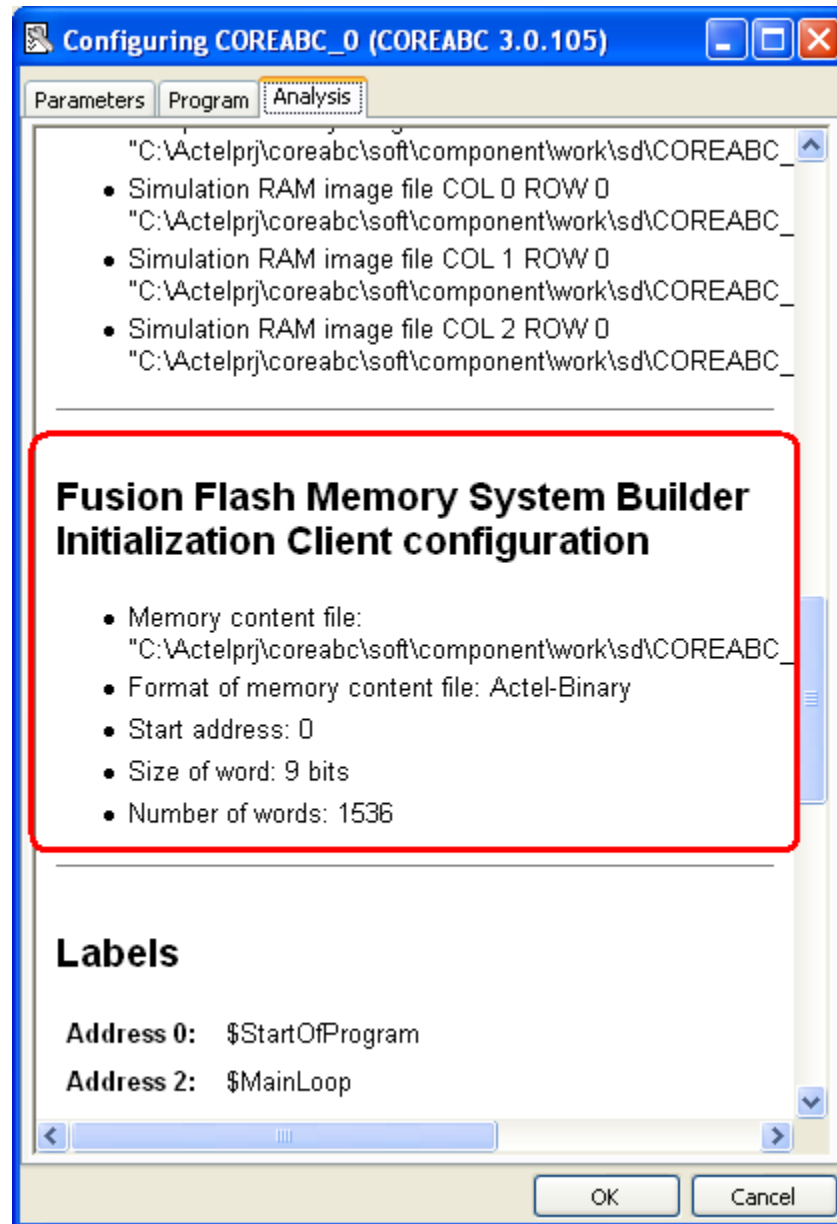

Figure 7-3 • Initialization Client Configuration
- In the CoreABC configurator Analysis view, as shown in Figure 7-3, note the configuration details which will be needed when configuring a Fusion Flash Memory System Builder [RAM] Initialization Client.